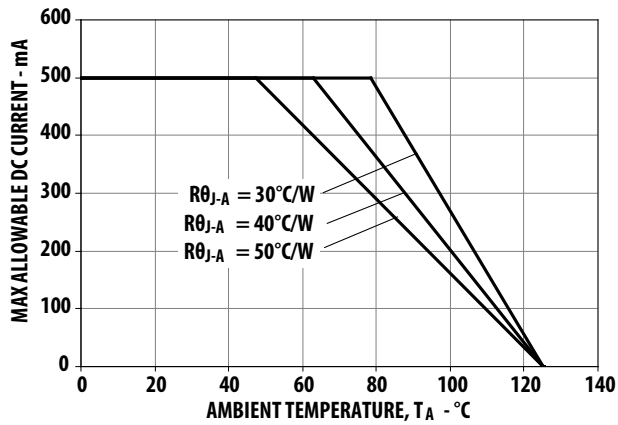
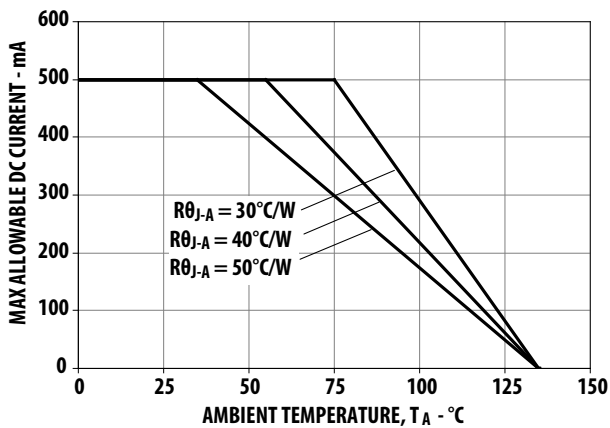

Figure 10. Maximum Forward Current vs. Ambient Temperature.
Figure 22. Maximum Forward Current vs. Ambient Temperature.
1. Derate linearly based on Figure 10 for AlInGaP and Figure 22 for InGaN.